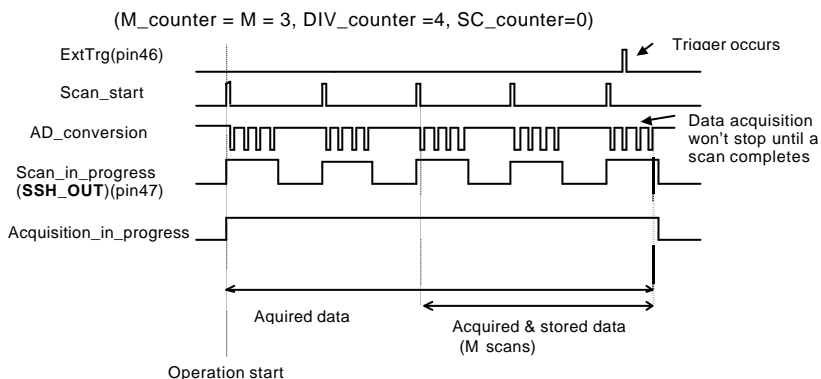

Figure 11: Pre-trigger (trigger with scan is in progress)
**Note:** If an external trigger event occurs when a scan is in progress, the data acquisition won't stop until this scan completes, and the stored M scans of data include the last scan. Therefore, the first stored data will always be the first channel entry of a scan (that is, the first channel entry in the Channel Gain Queue if the number of entries in the Channel Gain Queue is equivalent to the value of DIV\_counter), no matter when the trigger signal occurs, as illustrated in Fig 11, where M\_counter = M=3, DIV\_counter = 4, SC\_counter = 0.